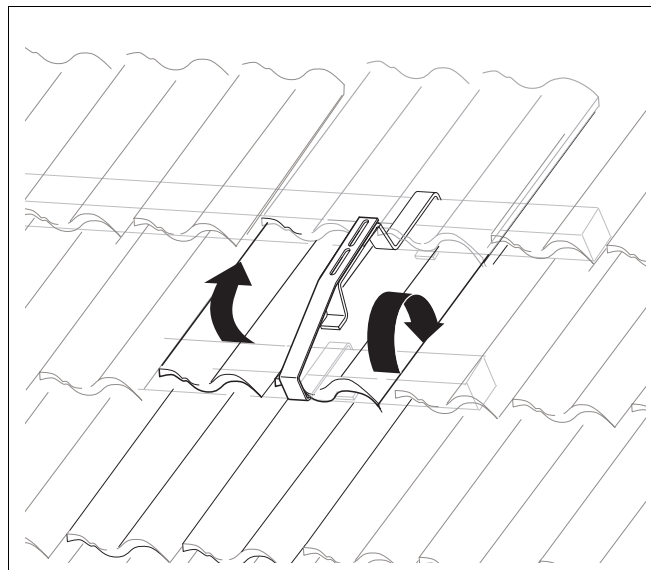

Fig. 22 Attaching additional roof hooks
- ▶ Lift the corresponding pantile or brick tile (Fig. 22).